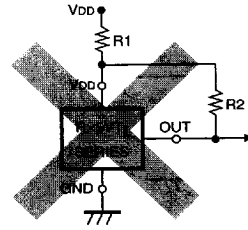

FIG. 10
2. The connection as shown in FIG. 10 may cause the oscillation in both R×5VT××C (CMOS Output) and R×5VT××A (Nch Open Drain Output).